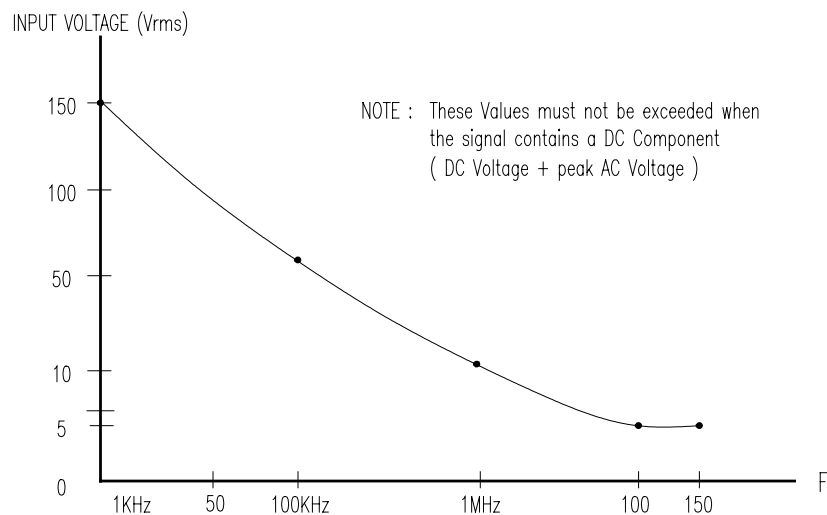

Fig. 6. Maximum Input Voltage-Frequency
- 1) When the impedance is $1M\Omega$, the maximum voltage applied to the input depends on the frequency and the position of the SENSITIVITY switch. This relationship is shown in Fig. 6, and the values given in this table must be strictly observed. Initially set SENSITIVITY to 1/10, if the counter doesn't count, set the switch to 1/1 range and then perform measurement. This procedure will reduce the danger of damaging the input circuit.
The maximum input voltage Vs frequency characteristics is shown as Fig. 6.